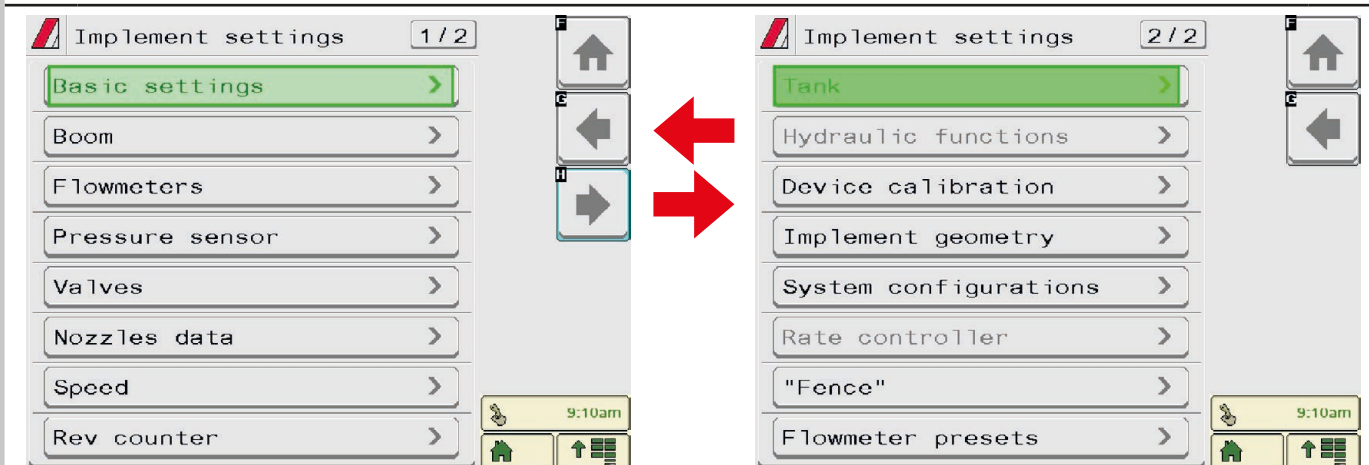

Fig. 34
**DEPENDING ON BASIC SETTINGS (CHAP.10), ITEMS AND MENU LAYOUT WILL CHANGE, AND DEVICE ADVANCED SETUP WILL CHANGE ACCORDINGLY. AN OVERVIEW OF NAVIGATION CAN BE FOUND IN Fig. 34.**